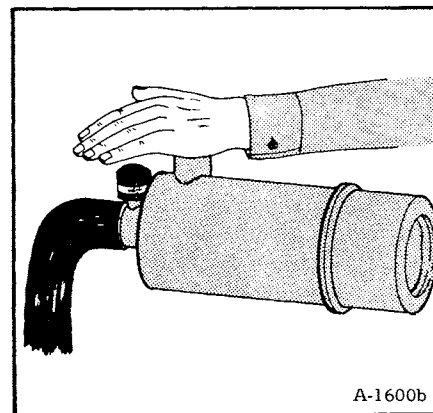

Fig. 1-7 Checking System
2. Hold hand tightly over the inlet hole (Fig. 1-7). The red ring must show on the condition indicator. If it does not, the system has a leak. Make replacement of the parts to correct the leak.